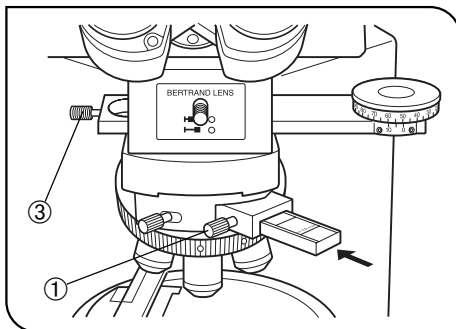

Fig. 10
1. Place a desired ND filter (30 mm diam.) in the empty hole ① as required.
2. Insert the rotatable analyzer (U-AN360P-2) ② as far as the click-stop position. Then screw in the stopper knob ③. (Fig. 10)
(Fig. 10)